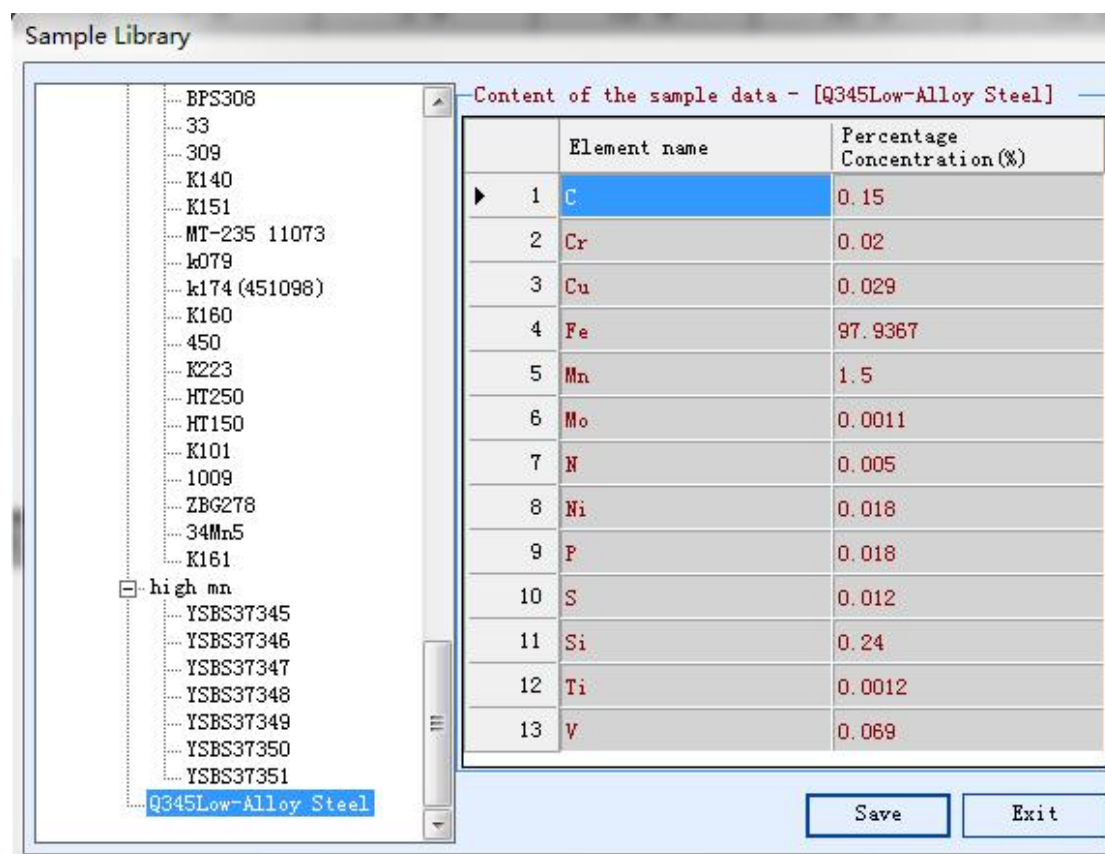

Figure 4-6 Determine the content again
Step 4 Check the content table and confirm again. Click “Save” and “OK”, as shown in Figure 4-6: